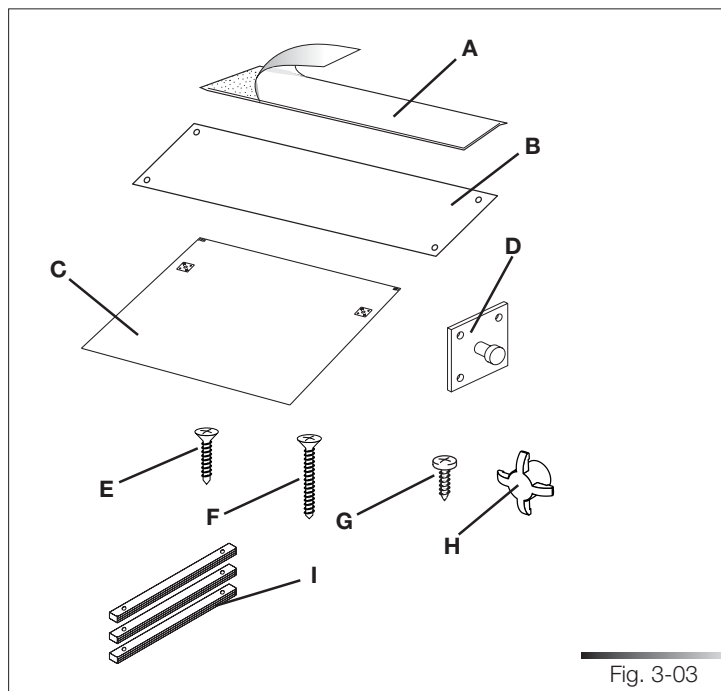

Fig. 3-03
- adhesive steam guard (ref. A fig. 3-03);
- 1 steel steam guard (ref. B fig. 3-03);*
- 1 template for door panel (ref. C fig. 3-03);
- 2 hooks for door panel (ref. D fig. 3-03);
- 8 screws for securing the door panel hooks (ref. E fig. 3-03);
- 2 screws for securing the door (ref. F fig. 3-03);
- 2 screws for fixing the dishwasher to the adjacent walls (ref. G fig. 3-03);
- 2 screw caps (ref. H fig. 3-03).
- 3 compensation strips (ref. I fig. 3-03).